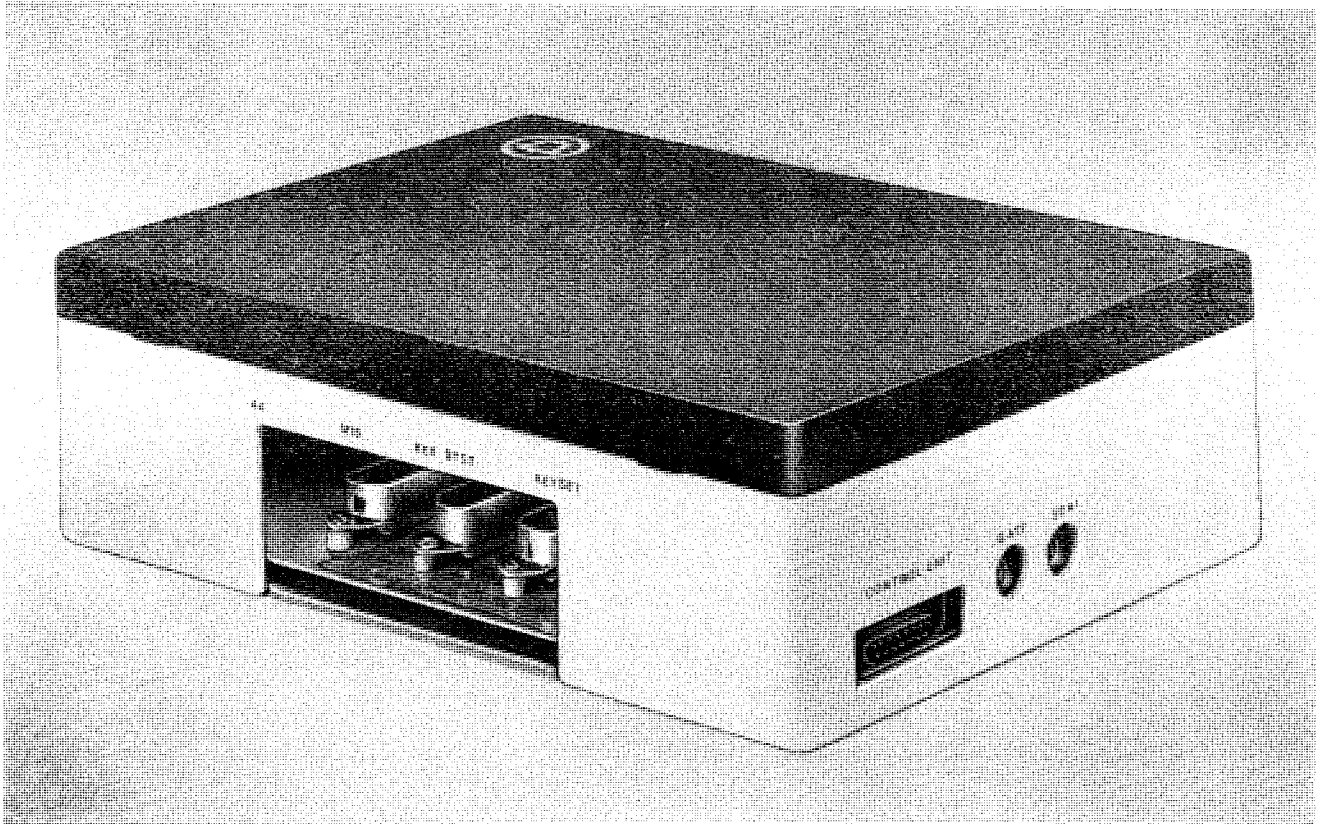

Fig. 6— 122A Connecting Unit
2.04 The 122A connecting unit (Fig. 6, 7, and 8) is an interface unit for the various system components. It also is a diagnostic test unit for the system. The LEDs inside the unit along with associated test procedures are used to isolate troubles.
- (1) Remove the 4A speakerphone system 85B1 power unit and cord.
- (2) Remove 82-type connecting block or 223-type adapter, whichever is used. If an 82-type connecting block was disconnected, remove the option plug for reinstallation [paragraph 3.04(a)] in the 122A connecting unit.
3.02 The 122A connecting unit (Fig. 6) should be located in a convenient location to accept the plugs from the various components.